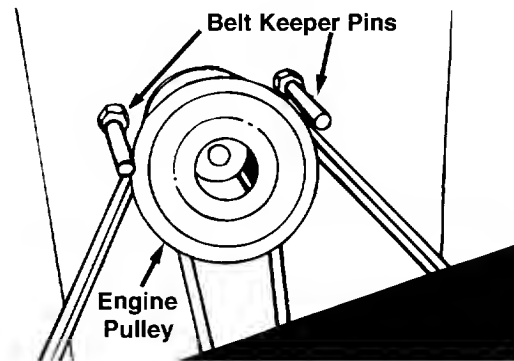

Figure 25
NOTE: Figure 25 and 27 are shown with the unit tipped up for clarity. It is not necessary to tip the unit to remove the belts.
NOTE: When reassembling, make certain belt keeper pins are assembled in the same locations from which they were removed. See Figure 25.
4. Remove the belt keeper pins from the lower frame. See Figure 25.